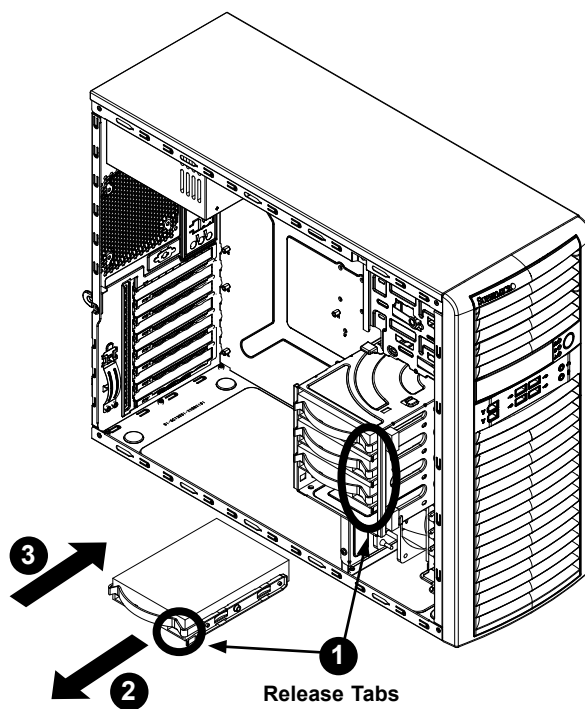

Figure 3-12. Installing Drives in the Hard Drive Cage
1. Press the release tab on the side of the hard drive carrier that is to be removed from the hard drive cage as shown in Figure 3-12.